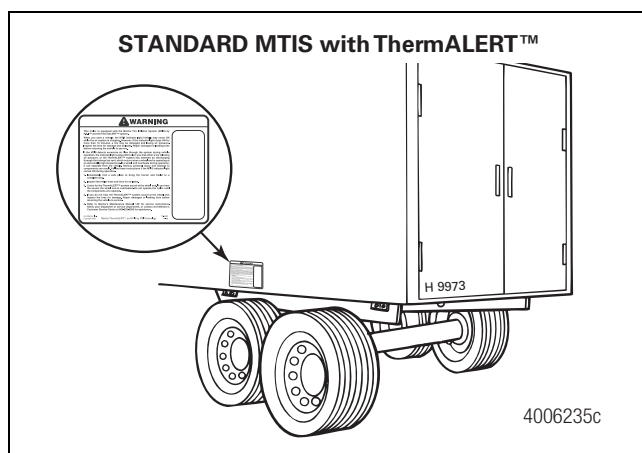

Figure 2.70
- Install an identification and hose installation decal on each side of the trailer above the suspension. Figure 2.70.